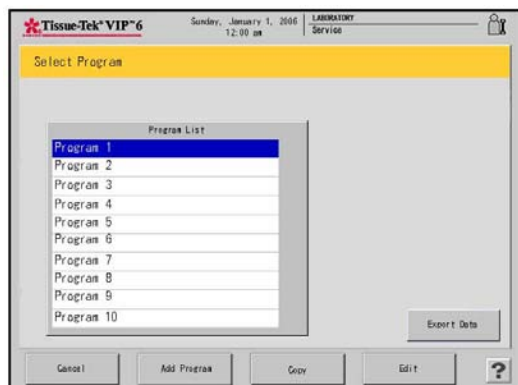

Figure 3-ZZ
- The Select Program screen displays (Figure 3-ZZ).